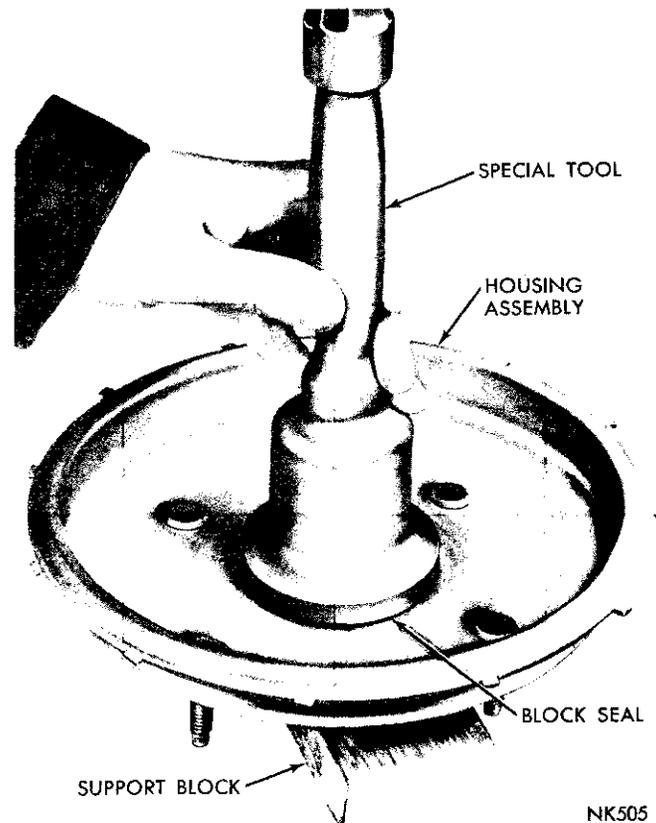

Fig. 32—Installing the Block Seal in the Housing
(1) With the housing blocked to prevent bending, drive the block seal into the housing, using Tool C-3205 (Fig. 32).